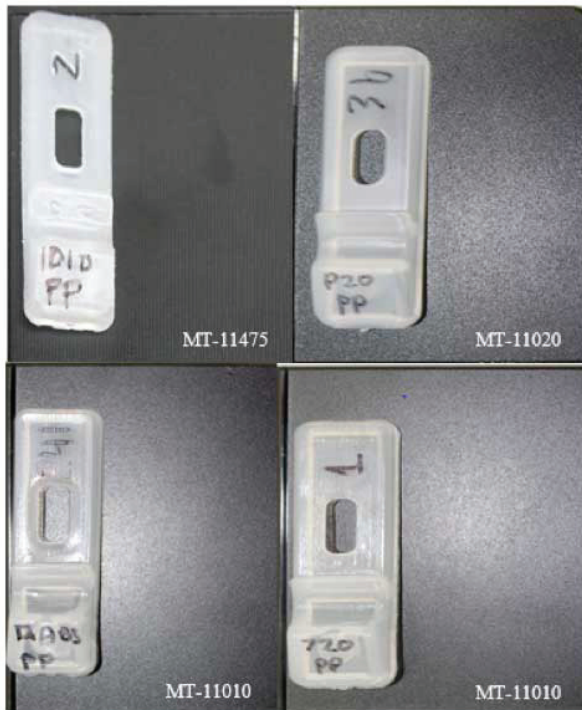

Figure 1: PP Molded Part Texture Comparison
After testing, parts were visually compared to Mold-Tech (MT) texture plaques in order to approximate surface finish [13]. Comparisons were made from the PP molded parts to the MT plaques (see Figure 1). These comparisons give an approximation of what surface finish can be expected when molding parts in these AM tools.